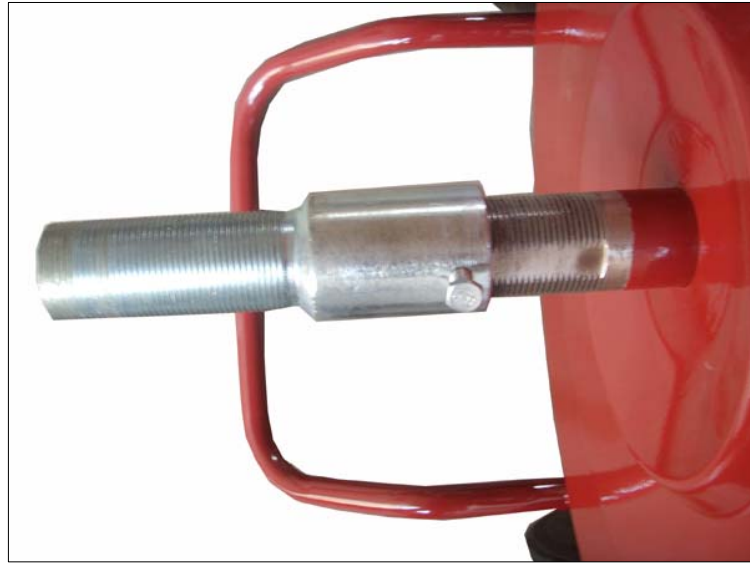

Fig.4
- (1) Connect the long thread shaft(#5)with the plate; Adjust the long thread shaft to suitable place ; Then use M6x10 bolt (#23) to fix (Ref. Fig4);